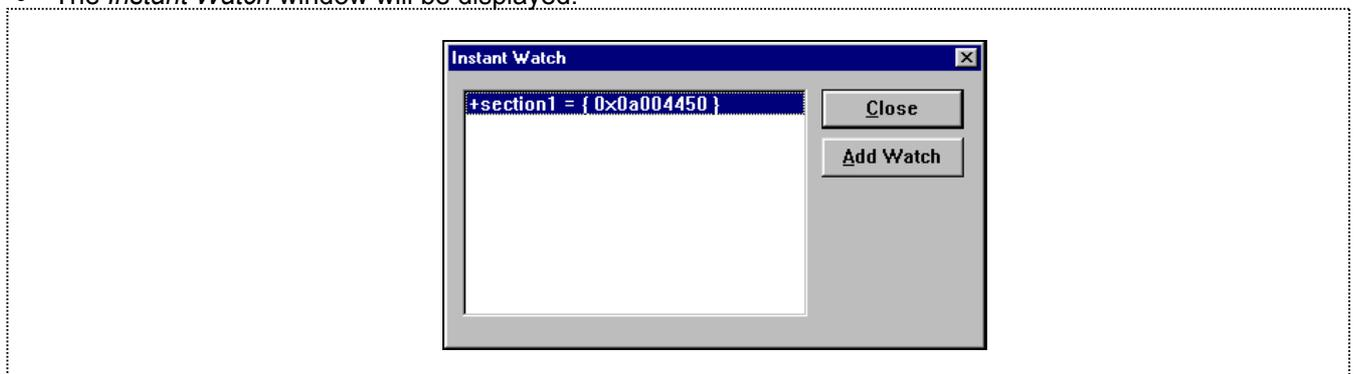

Figure 7-28 Instant Watch Dialog-box
- Type the Symbol/Label to watch and click **OK** will show the similar display as shown in Figure 7-28.